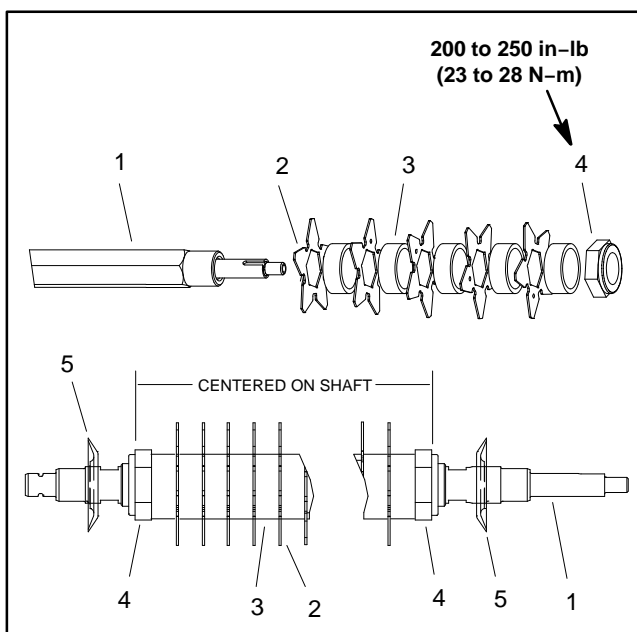

Figure 13
Disassembly (Fig. 13)
5. Remove lock nut from either end of the shaft (Fig. 13).
Assembly (Fig. 13)